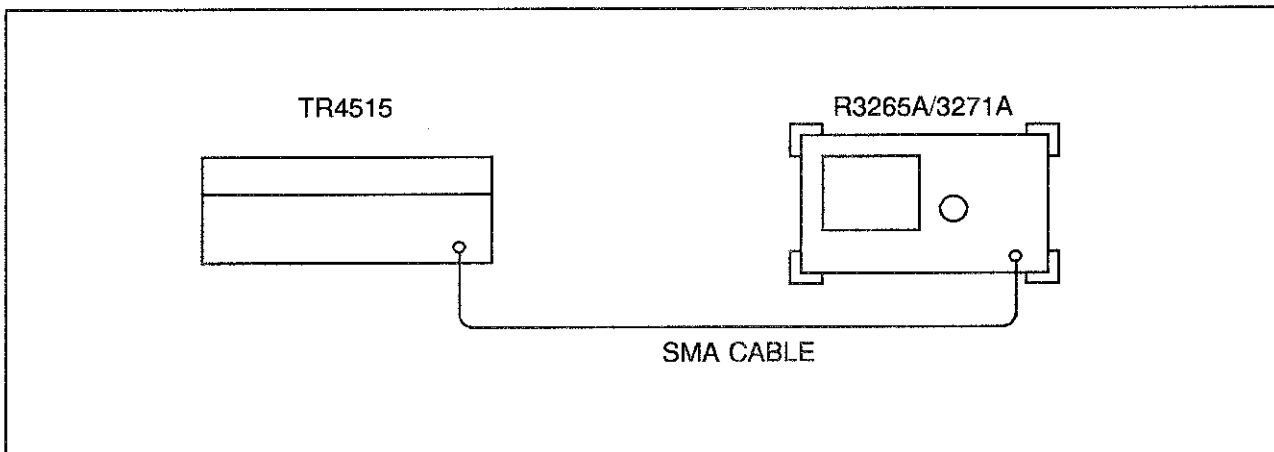

Figure 5-10 YTO Adjustment Setup
(1) Connect the equipment as illustrated in Figure 5-10.
(2) Press the INSTR PRESET key on the TR4515 and set the controls as follows: